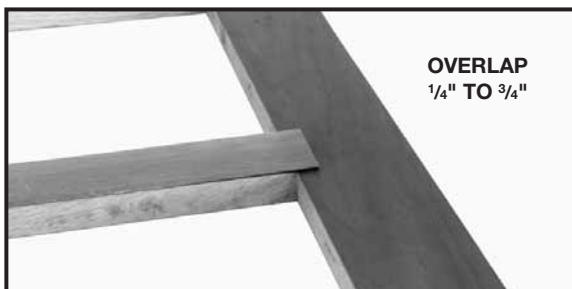

Fig. 18
3. Position the laminate to a rail with at least $\frac{1}{4}$ ", and no more than $\frac{3}{4}$ ", overlapping each stile (see Fig. 18). Use a roller to secure the center section of the laminate to the rail. Leave at least 4" of the laminate loose, at both ends of the rail (Do not roll down).